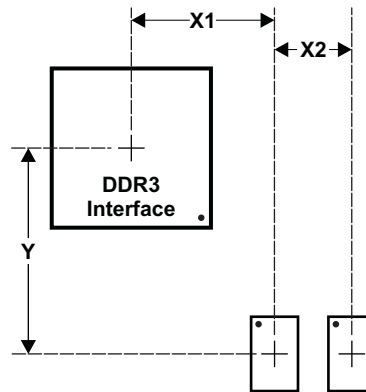

图 7-50. Placement Specifications
图 7-50 shows the required placement for the AM335x device as well as the DDR3 devices. The dimensions for this figure are defined in 表 7-61. The placement does not restrict the side of the PCB on which the devices are mounted. The ultimate purpose of the placement is to limit the maximum trace lengths and allow for proper routing space.
(1) DDR3 keepout region to encompass entire DDR3 routing area.
(2) For dimension definitions, see 图 7-50.
(3) Measurements from center of AM335x device to center of DDR3 device.
(4) Minimizing X1 and Y improves timing margins.
(5) w is defined as the signal trace width.
(6) Non-DDR3 signals allowed within DDR3 keepout region provided they are separated from DDR3 routing layers by a ground plane.